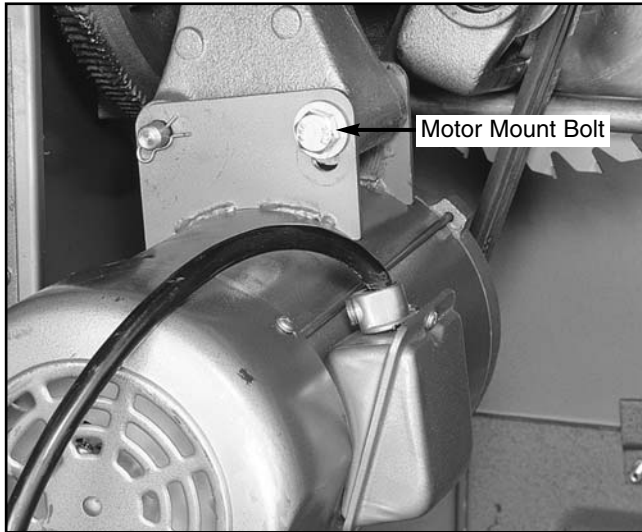

Figure 38.
1. Loosen the motor mount bolt. **Figure 38.**